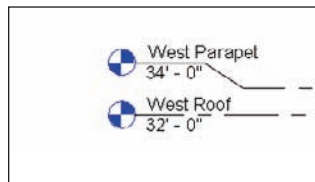

FIGURE 3.24 Using the display bubble toggles to switch the display to the appropriate side of the building
2. Display the bubbles to the *left* side of the level line by checking the Show Bubble box, as shown in Figure 3.24.